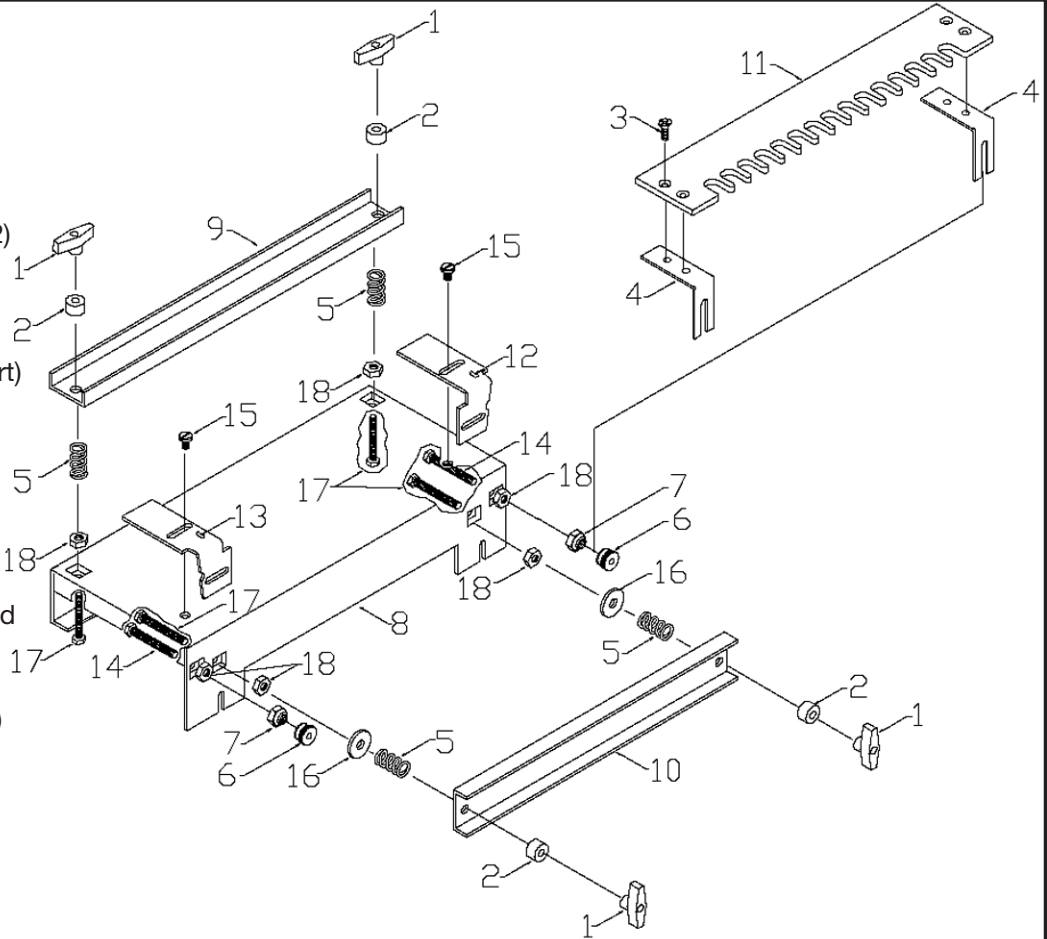
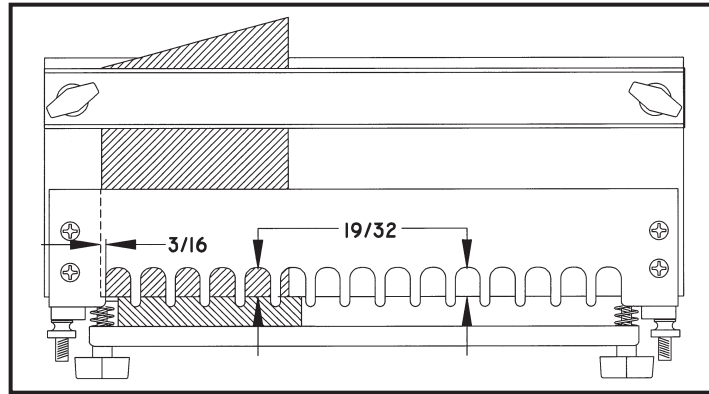

Fig. 1
Fig. 8
NOTE: Refer to Fig. 1 for the various parts of the Model 4112 Dovetail Fixture/Jig.
Front to back positioning of the templates is accomplished by varying the location of the locknuts (item 7, Fig. 1).
2. Loosen edge guide retaining screw, (item 15, Fig. 1) and slide edge guide to drawer front and secure in place.
3. Place the $\frac{1}{2}$ " half-blind dovetail templet on top of the drawer front. Using a standard scale or ruler, adjust locknuts, item 7, Fig. 1, so there is $\frac{19}{32}$ " from back of templet slots to edge of drawer front at both ends of templet (see Fig. 8). Tighten knurled nuts, item 6, Fig. 1, to secure templet in place.
4. Loosen top clamp bar and position drawer front so that the left edge is $\frac{3}{16}$ " (see Fig. 8) past the left edge of the first templet slot and clamp in place.